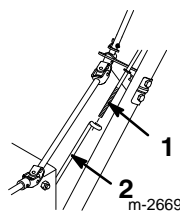

Figure 3
3. Position the left handle and insert the traction rod through the loop in the lower traction rod (Fig. 3).